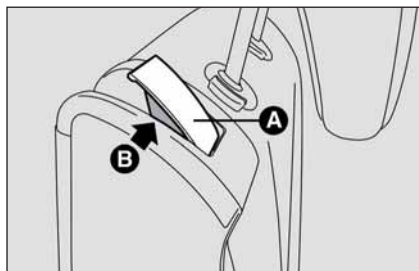

fig. 3
**IMPORTANT** Correct backrest fastening is guaranteed when the “red band” **B**-fig. 3 is no longer visible. The “red band” actually indicates that the backrest is not properly secured. When setting the backrest to travelling position, always make sure it is properly secured by hearing the locking click.